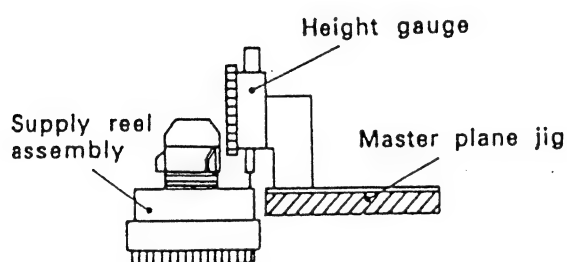

Fig.4 Reel height adjustment
c) Check reel assembly height measure at two places 90° apart (± 0.2 mm) Fig.4.